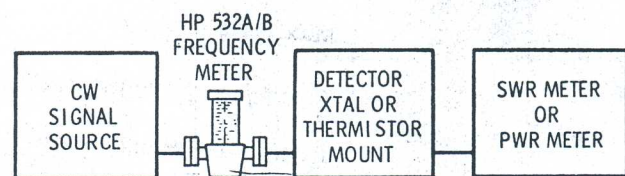

Figure 1. Typical Frequency-Measuring Setup
20. For single frequency measurements the detector meter combination (shown in Figure 1) can be either a thermistor and power meter such as the HP Model 486 Thermistor Mount and 431 Power Meter or detector and high-gain voltmeter such as the HP Model 424 Detector and 415 VSWR Meter. Either a crystal or barretter can be used with the 415. The RF source must be modulated with 1000 Hz square-wave when the 415 is used as the indicator. Tune frequency meter for the point of maximum dip on the indicator, and read frequency meter dial by observing the indication under the black vertical line between the two horizontal red cursor lines.